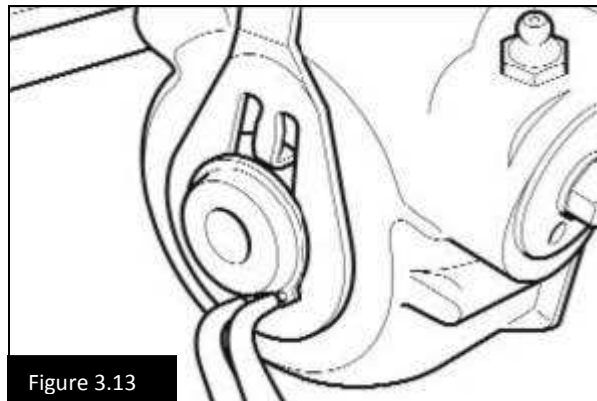

Figure 3.13
- Remove the Circlip retaining the slack adjuster to the camshaft. Figure 3.13